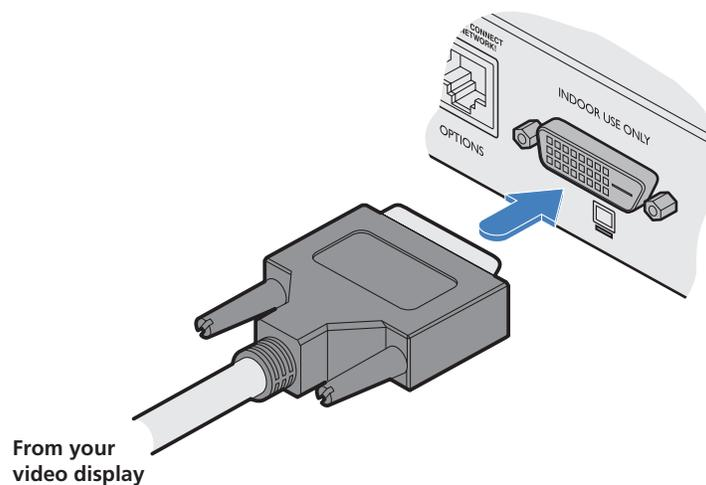

Figure 3-8. Disconnecting the power adapter plug.
1. Connect the DVI-D video cable from your video display to the video output port on the rear panel of the remote module. See Figure 3-8.